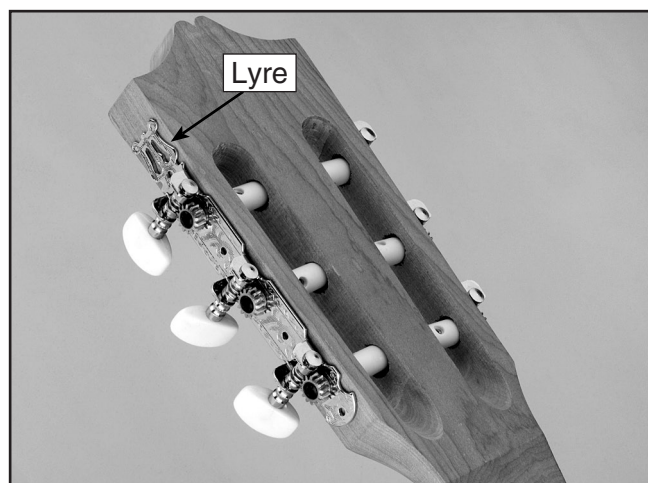

Figure 10. Correct tuning machine position.
1. Slide the machine heads through the peg holes on the side of the headstock. Note—*Make sure the lyre end of the machine head is positioned as shown in **Figure 10**.*